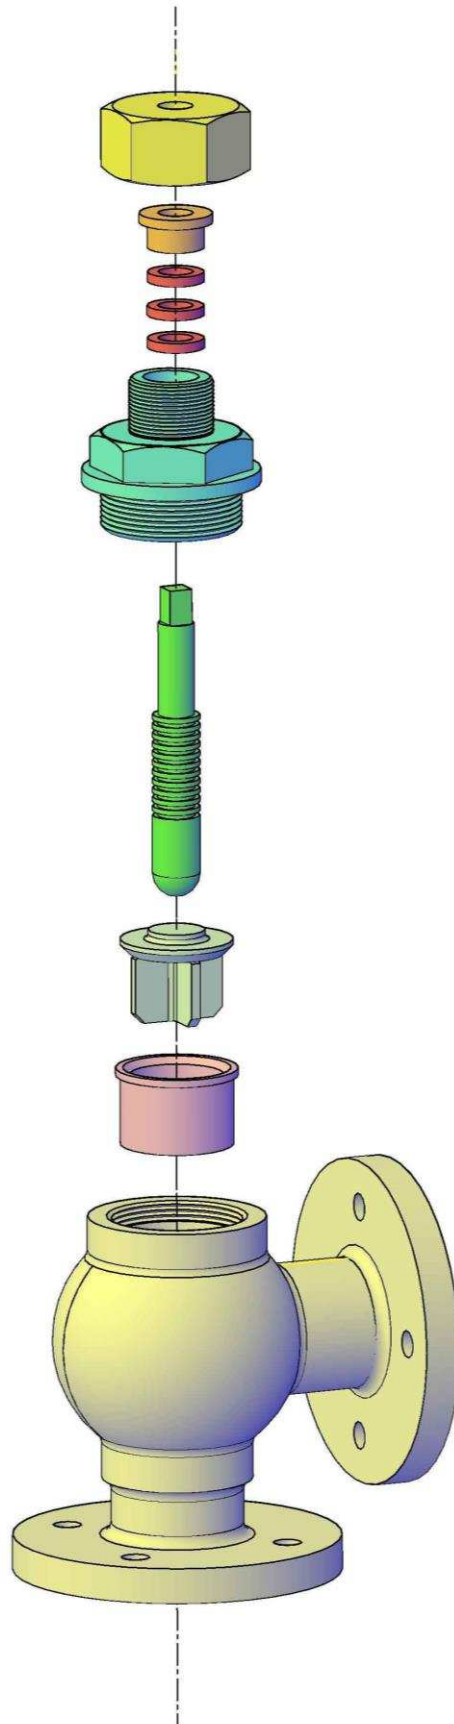
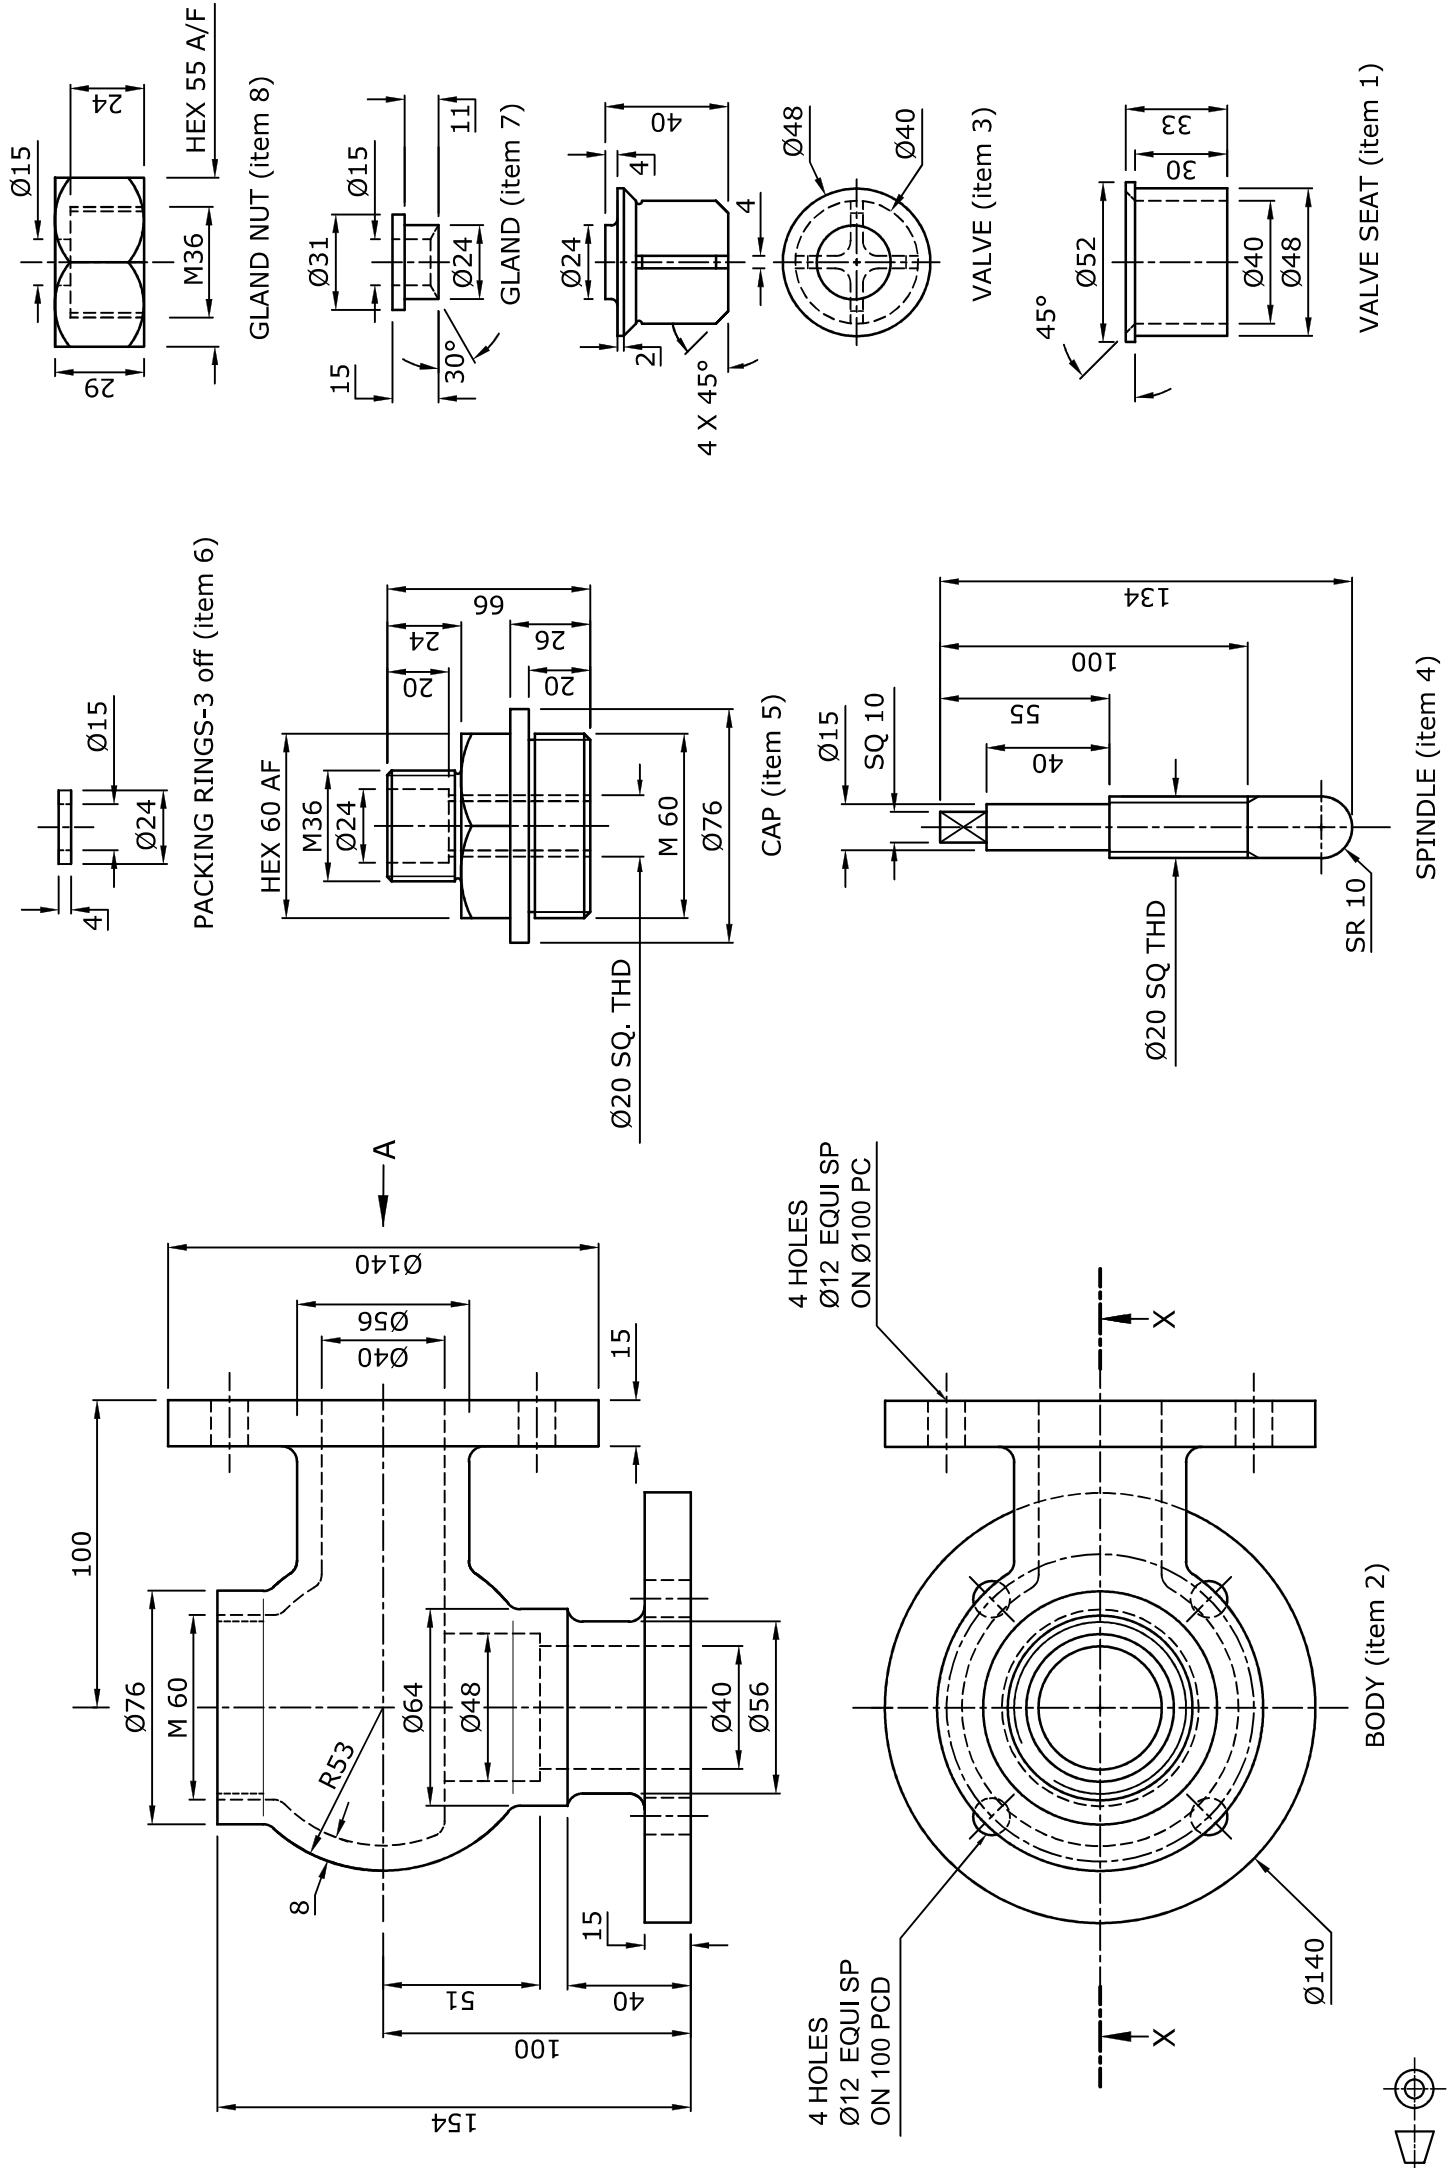

Figure 1c
FIGURE 1d
1. A pictorial view of a valve is shown in Figure 1c. Detailed drawings of the components of the valve are shown in Figure 1d on the attached A3 paper. The components of the valve may be assembled as follows.
- The valve seat (item 1) is positioned and pressed into the 48 mm diameter recess in the lower half of the body (item 2).
- The valve (item 3) is inserted into the 40 mm diameter bore of the valve seat with the 45° face of the valve resting on the 45° face of the valve seat.
- The square end of the spindle (item 4) is passed up through the M60 portion of the cap (item 5) and the 20 mm square thread engages with the 20 mm square thread in the cap and rotated through its full length.
- Three gland packing rings (item 6) are placed over the spindle and pressed into the annular space between the spindle and the 24 mm diameter counter bore in the cap.
- The gland (item 7) is placed over the spindle and positioned on the packing.
- The gland nut (item 8) is located over the spindle and M36 thread screwed on the M36 thread of the cap (item 5). The gland nut compresses the packing when tightened.